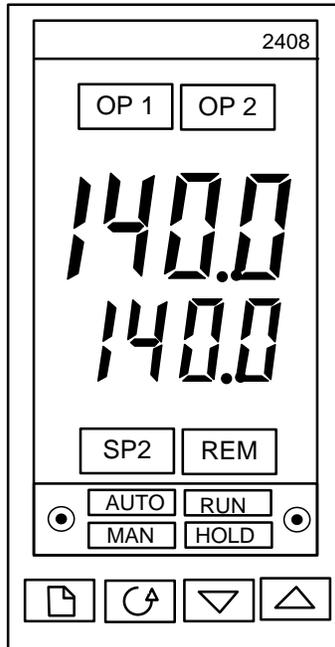

Figure 4-5. Temperature Controller
The setpoint temperature is adjusted using the controls and displays provided on the Temperature Controller (Eurotherm 2408). These controls and displays are illustrated and described in Figure 4-5 and Table 4-2. If necessary, setpoint temperature adjustment is accomplished as follows:
3. Press the AUTO/MAN button on front panel of the Temperature Controller (Figure 4-5) and toggle to MAN (Manual) mode. The MAN indicator lights when Manual mode is selected.